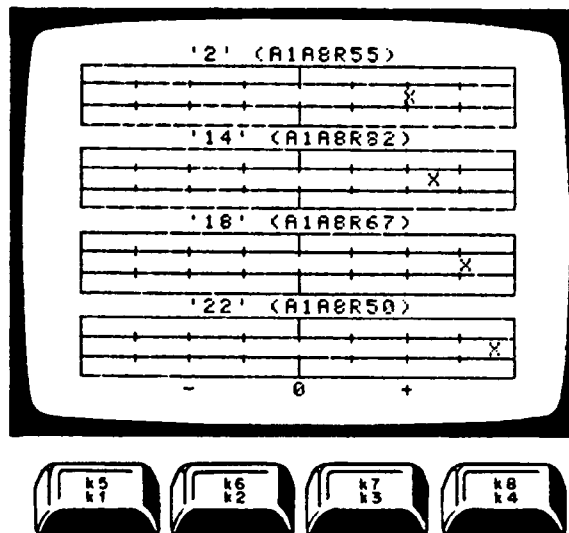

Figure 5-27. Flatness Adjustment
- d. Axes representing the slope adjustment for each flatness region, are drawn on the controller screen (see figure 5-27). The center of each axis represents zero error (the optimum slope for that region). The "X" is adjusted as close as possible for zero error.